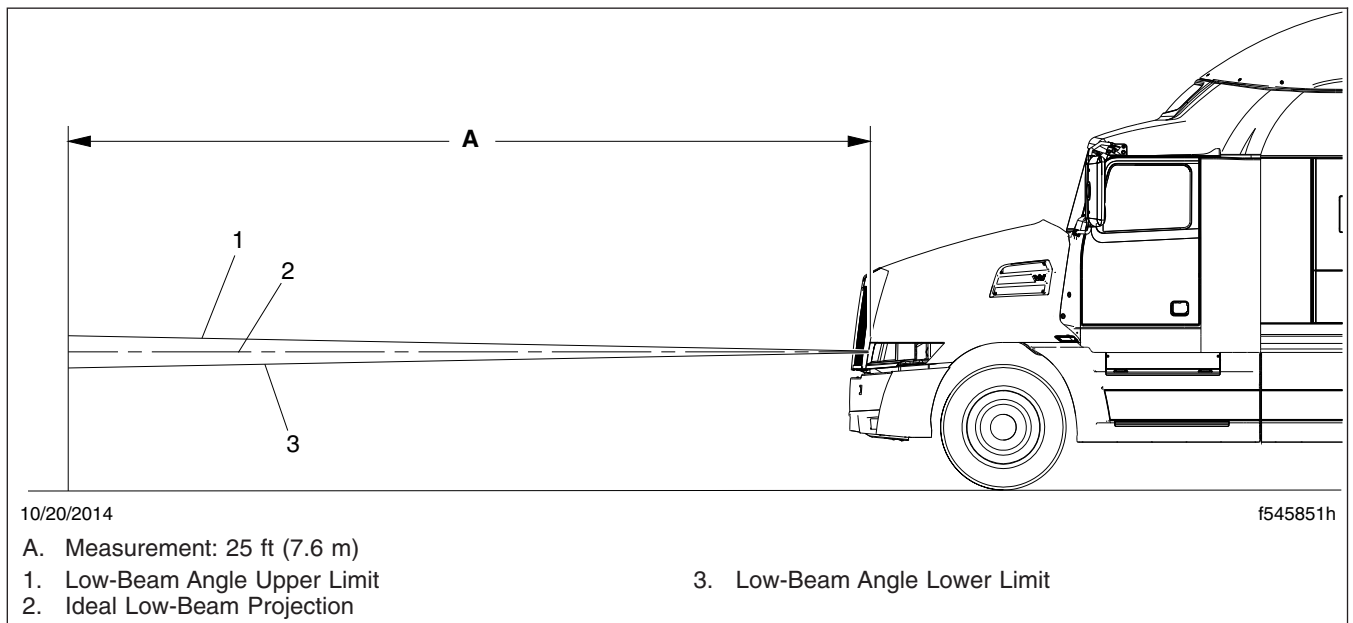

Fig. 20.2, Vertical Low-Beam Headlight Variation Limits
6. Check the vertical adjustment of the low beams. The center of each beam projection should fall on or near the marks made during step 4. See Fig. 20.2.